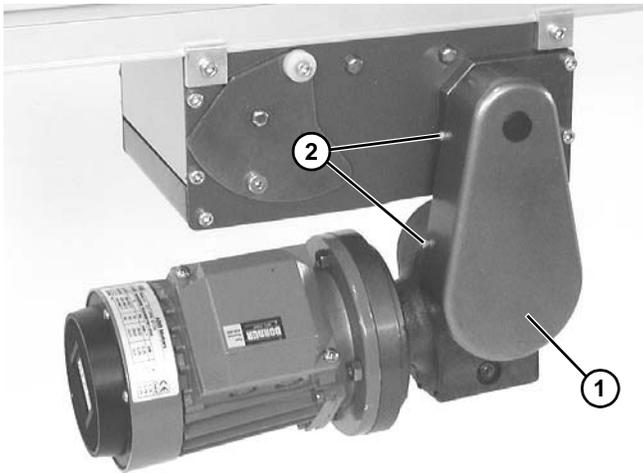

Figure 11
9. Install cover (**Figure 11, item 1**) with four (4) screws (**Figure 11, item 2**). Tighten screws to 35 in-lb (4 Nm).
1. Remove four (4) screws (**Figure 11, item 2**) and remove cover (**Figure 11, item 1**).
4. Install cover (**Figure 11, item 1**) with four (4) screws (**Figure 11, item 2**). Tighten screws to 35 in-lb (4 Nm).
6. Install cover (**Figure 11, item 1**) with four (4) screws (**Figure 11, item 2**). Tighten screws to 35 in-lb (4 Nm).